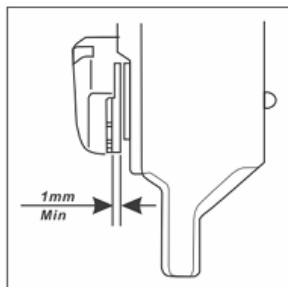

Fig.6
- Replace brake pads immediately if they are 1mm thick or less. (Fig. 6)